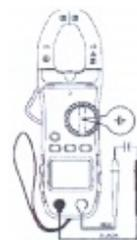

Fig.9
(2) Plug the red test lead in to "V Ω " terminal and the black test lead into COM terminal (fig.9).
(3) If there is remaining values on LCD before measurement, press REL key to clear it.
(4) Plug the red test lead into "V Ω " terminal and